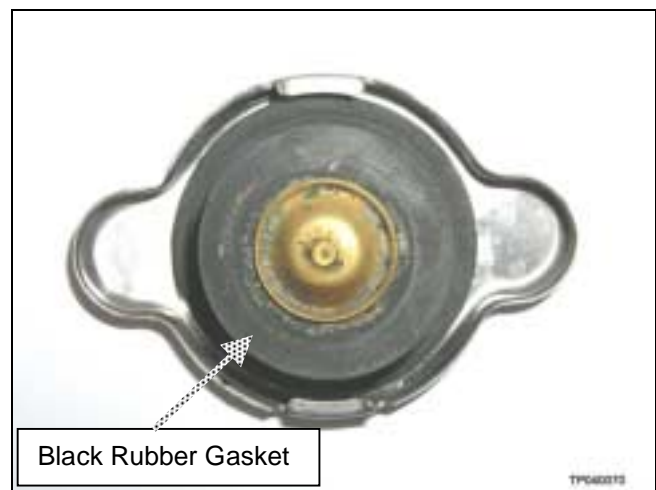

Figure 3
- B. If the Metal Plunger cannot be seen around the edge of the Black Rubber Gasket (see Figure 3), the radiator cap must be replaced.